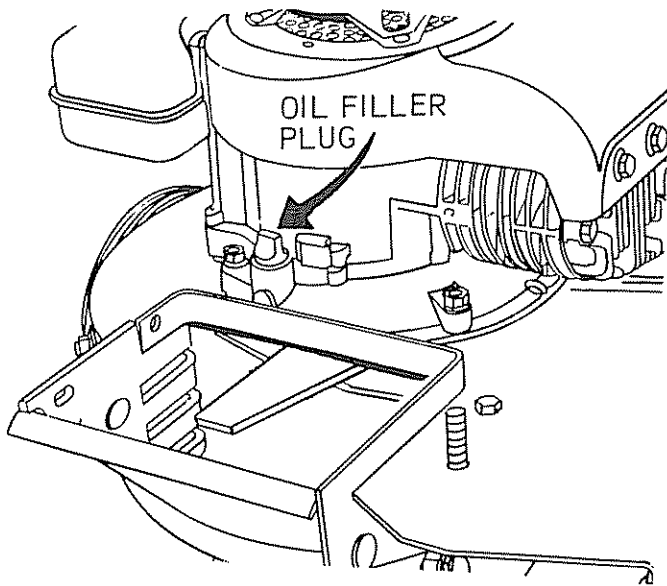

FIG. 7
1. Refer to Fig. 7 for location of oil filler plug. Be sure area around plug is clean.